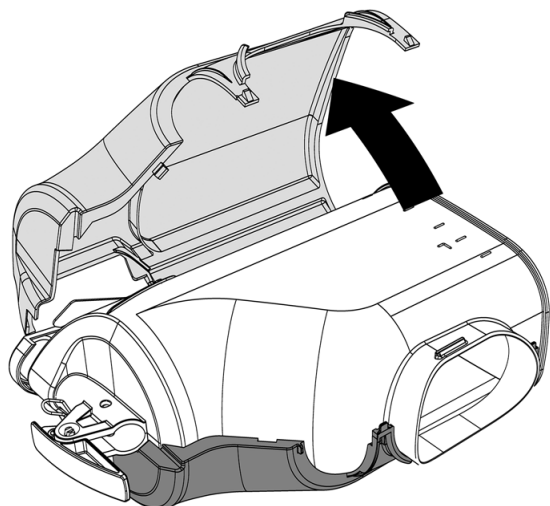
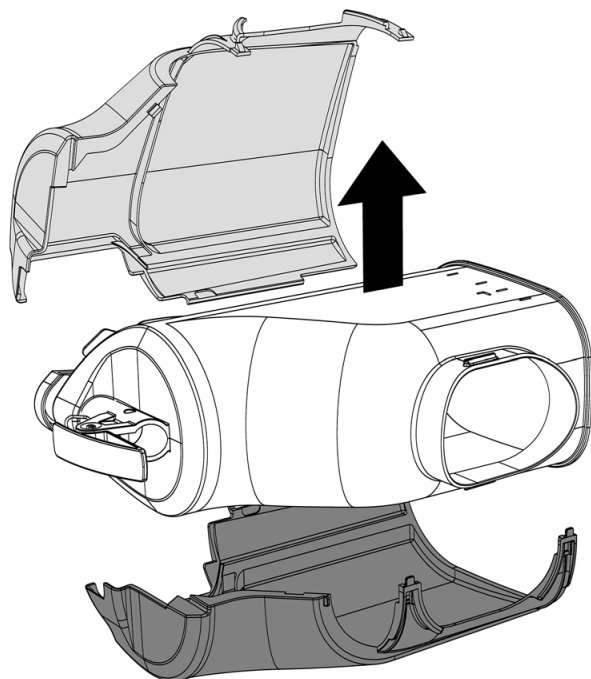

figure 5
figure 6
- 2** Remove the left-hand part and then the right-hand part of the recover. (see figure 5) (see figure 6).